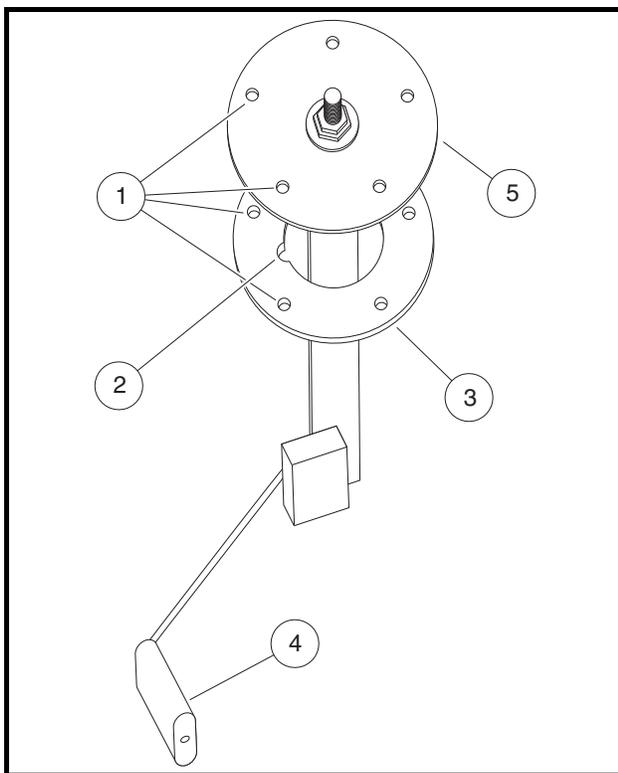

Figure 13b-16 Fuel Level Sending Unit Alignment
3. Align the flange identification mounting holes (1) directly over the corresponding mounting holes in the gasket and fuel tank (**Figure 13b-16, Page 13b-16**). See following **CAUTION** and **NOTE**.
4. Carefully thread each hex-head screw by hand, with the ring terminal on the black ground wire (6) under the screw head closest to the engine (**Figure 13b-15, Page 13b-14**). See following **CAUTION**.